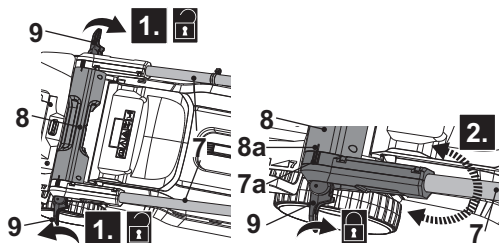

Fig. 12
1. Unfold and loosen the clamp levers (9) anti-clockwise on both sides of the lower handle bar (7), but do not remove them (Fig.12, step 1).
2. Hold and swing the handle assembly gently to the desired position by aligning the indication line (7a) with the indicator (8a) of transport handle (8) (Fig. 12, step 2). Ensure the handle assembly is assembled on the same height level on both side.
3. Secure the handle assembly by folding up the clamp lever (9) towards the transport handle (8). If clamp lever (9) cannot be folded, loosen it and fold again. If it is too loose, tighten it by turning the clamp lever (9) clockwise (Fig. 12, step 3).